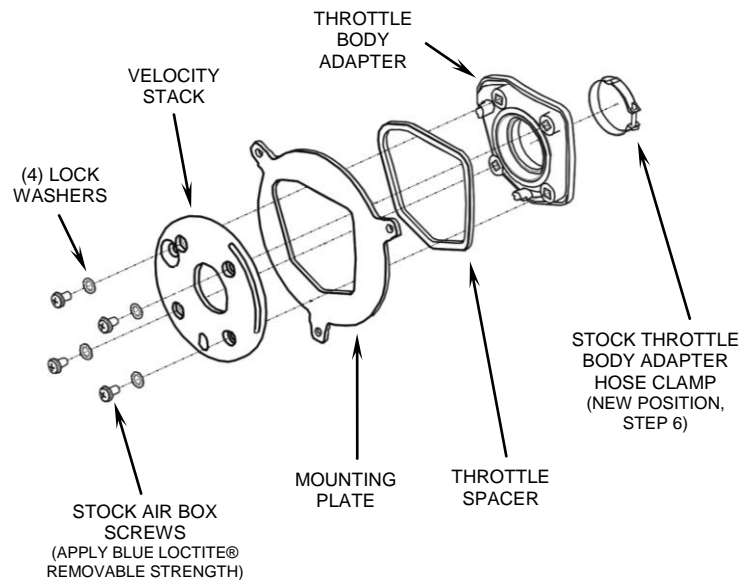
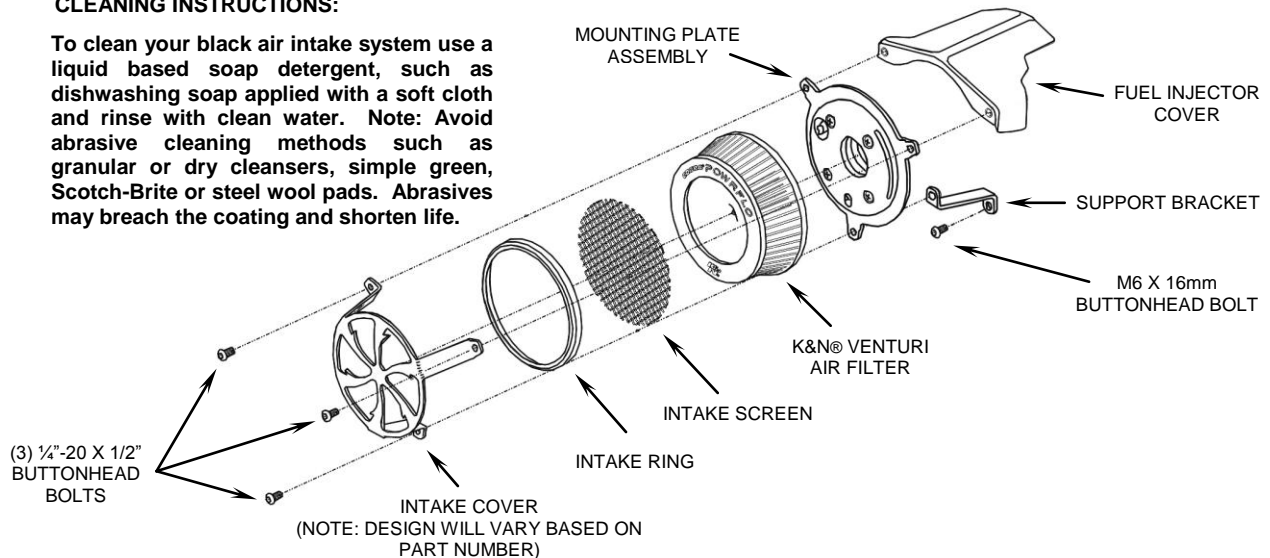

FIGURE 2
FIGURE 3
5. Using the (4) stock screws from Step 2 and supplied lock washers, bolt together the supplied velocity stack, mounting plate, throttle spacer to the throttle body adapter in the order shown in Figure 2. Note: Apply blue Loctite® removable strength (not supplied) to stock screws before bolting together.
6. Remove hose clamp from rubber seal on the backside of the throttle body adapter and flip 180 degrees then reinstall onto rubber seal, then rotate the clamp 90 degrees counter-clockwise so the screw is accessible from the lower front side of the motorcycle. See Figure 2. NOTE: the locating tab on the clamp will no longer be engaged; this is correct.
8. Between the two cylinders is a bracket with a welded nut; align the slotted hole in the support bracket with that welded nut, then insert the (1) supplied M6 x 16mm buttonhead bolt and lightly snug tight.
10. Place the supplied K&N® filter onto the velocity stack. Insert the round intake screen into the black ring so the screen sits inside the edge of the ring. Place the ring and screen between the legs of the naked black intake cover as shown in Figure 3.
11. Place the naked intake cover, ring and screen assembled in Step 10, over the air filter and align each leg to the mounting plate holes. Be sure screen sits at a 45 ° angle to the bottom leg, and C/V logo'd leg is at the upper left position. Insert (1) supplied 1/4"-20 x 1/2" buttonhead bolt through the lower leg of the intake cover and into the base mounting plate and into the support bracket threads, see Figure 3. Lightly snug to hold all parts in place.
12. Insert (2) supplied 1/4"-20 x 1/2" buttonhead bolts, into the upper legs of the naked intake cover, mounting plate and into the threaded holes of the fuel injector cover, Figure 3. Be sure the parts are all aligned and tighten all three 1/4"-20 x 1/2" and M6 x 16mm buttonhead bolts securing the naked cover to the mating parts. Be sure all clamps are tightened securely.